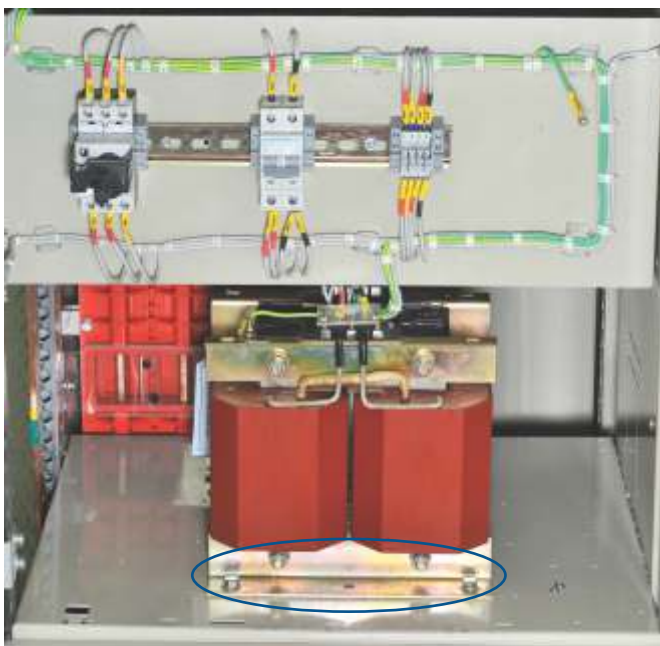

Figure 48 - Control Transformer Mounting on Panel
6. Place the terminal covers properly to adhere to stated ingress protection (IP) level.
8. While dispatching the switchboard, secondaries of all current transformers are shorted. Remove these shorting cables while connecting relays/meters and store them separately Figure 48.